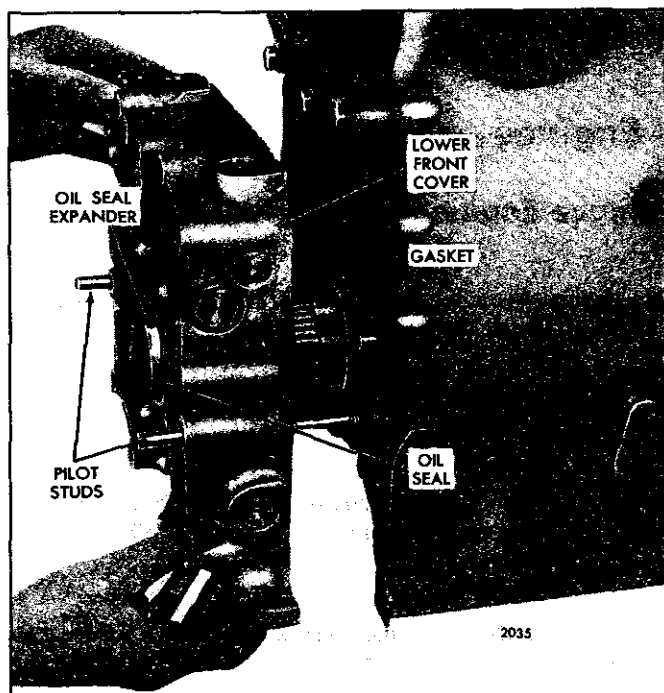

Fig. 3 – Installing Lower Engine Front Cover —
3. Thread two 3/8"–16 pilot studs approximately 8" long into two diametrically opposite bolt holes in the cylinder block to guide the cover in place (Fig. 3).
4. Apply a light coat of cup grease to the lip of the oil seal. Slide the engine front cover over the oil seal expander and pilot studs as shown in Fig. 3. Push the cover forward until the inner rotor of the oil pump contacts the pump drive gear on the crankshaft. Rotate the crankshaft slightly to align the teeth, then push the cover up against the gasket and block. Do not force the cover.